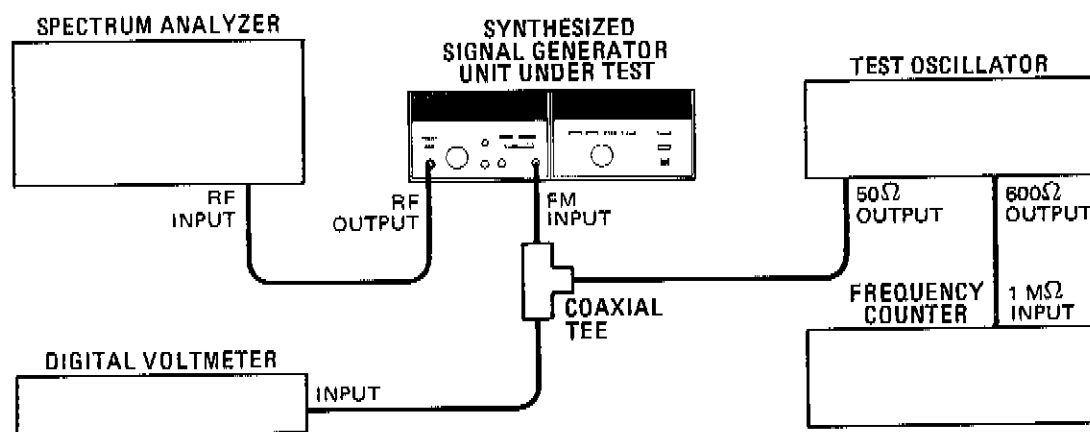

Figure 5-16. FM Adjustments Test Setup
3. Connect the equipment as shown in Figure 5-16.